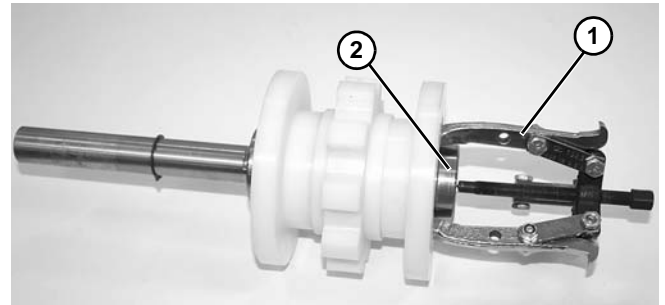

Figure 46
7. Using puller (Figure 46, item 1), as shown, remove bearing (Figure 46, item 2) from shaft assembly. Repeat on opposite side, if needed.